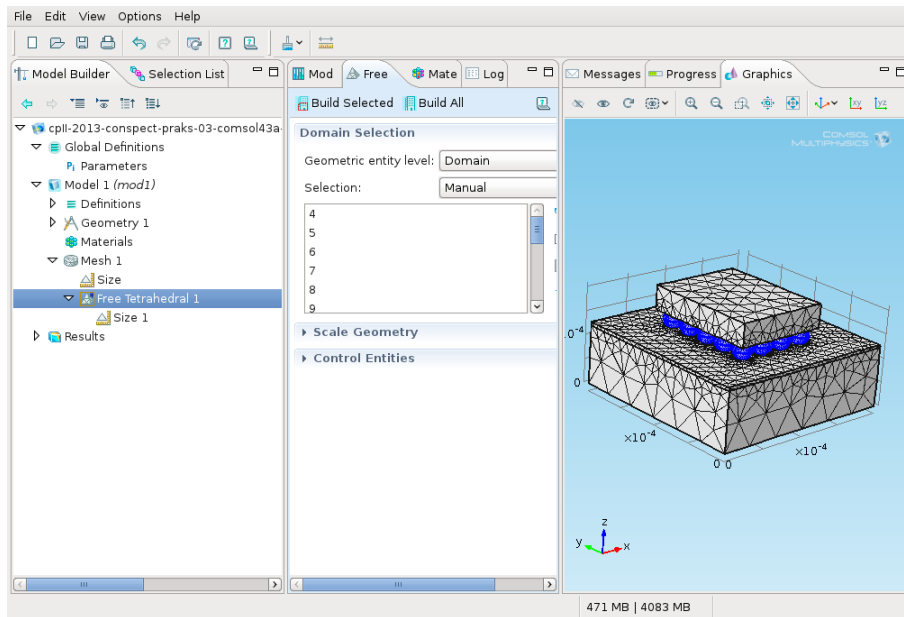

Figure 16: Selecting the solders.
- 2 Select domains ***4 . . . 23*** by removing domains ***1 . . . 3*** from the selection list (Fig. 16).